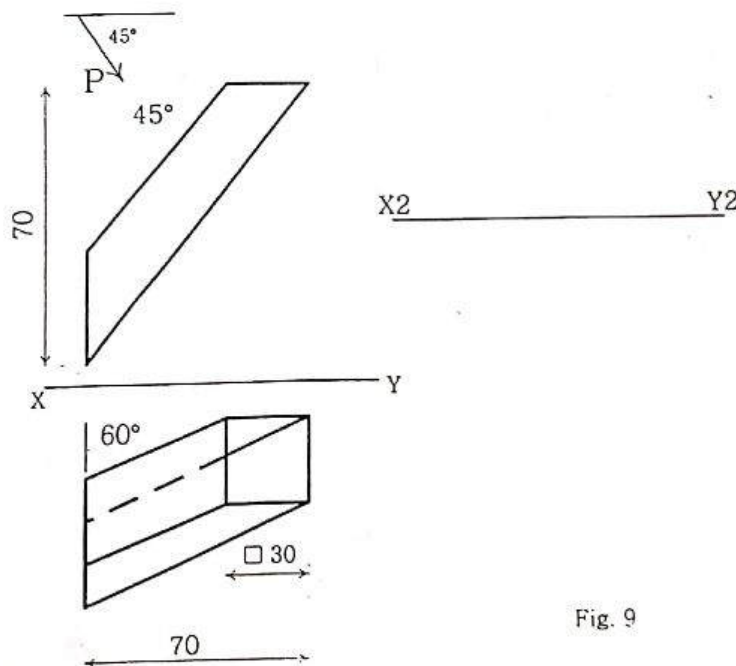

Fig. 9
8. The drawing of the component in figure 9 is presented in first angle orthographic projection